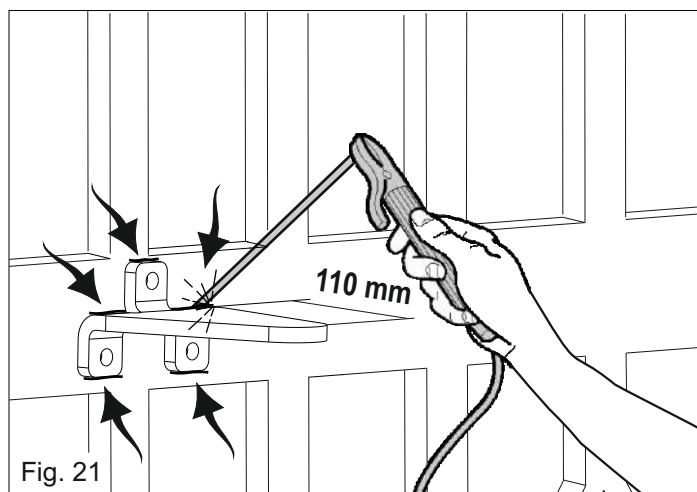

Fig. 21
- 2) Weld the front fixing bracket on the gate operating on the the points indicated by the arrows (Fig. 21)